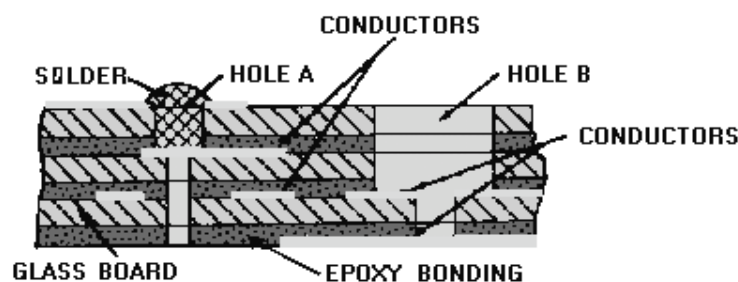

Figure 1-40.—Clearance-hole interconnection.
**CLEARANCE-HOLE METHOD.**—In the CLEARANCE-HOLE method, a hole is drilled in the copper island (terminating end) of the appropriate conductor on the top layer. This provides access to a conductor on the second layer as shown by hole A in figure 1-40. The clearance hole is filled with solder to complete the connection. Usually, the hole is drilled through the entire assembly at the connection site. This small hole is necessary for the SOLDER-FLOW PROCESS used with this interconnection method.
Conductors located several layers below the top are connected by using a STEPPED-DOWN HOLE PROCESS. Before assembly of a three-level board, a clearance hole is drilled down to the first layer to be interconnected. The first layer to be interconnected is predrilled with a hole smaller than those drilled in layers 1 and 2; succeeding layers to be connected have progressively smaller clearance holes. After assembly, the exposed portion of the conductors are interconnected by filling the stepped-down holes with solder, as shown by hole B in figure 1-40. The larger the number of interconnections required at one point, the larger must be the diameter of the clearance holes on the top layer. Large clearance holes on the top layer allow less space for components and reduce packaging density.